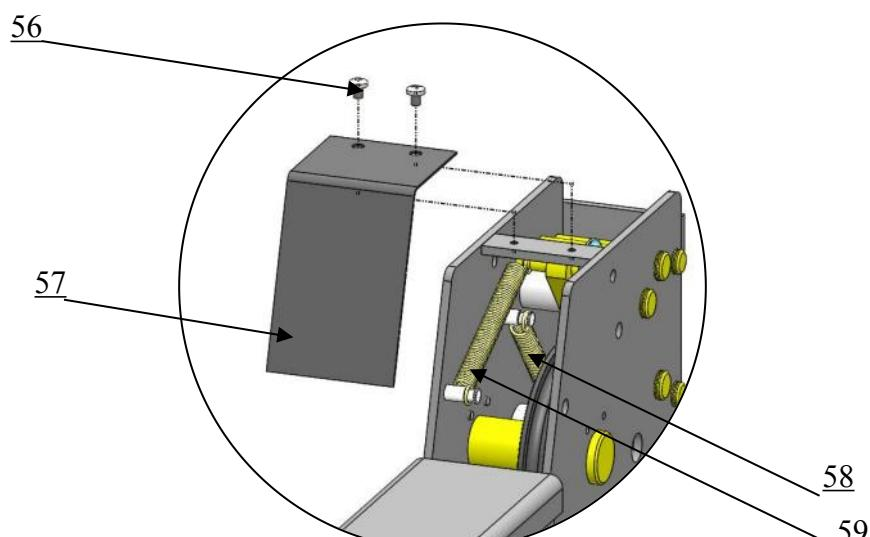

Fig. 33
4. Install tension spring and cross beam protective cover. **(See Fig. 33).**